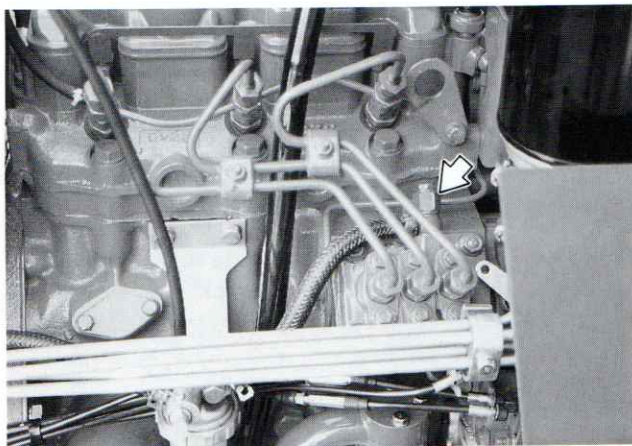

Figure 38 — Fuel System Bleed Screw
3. Open the bleed screw at the pump Figure 38 and let the air bubbles escape, then close the bleed screw.